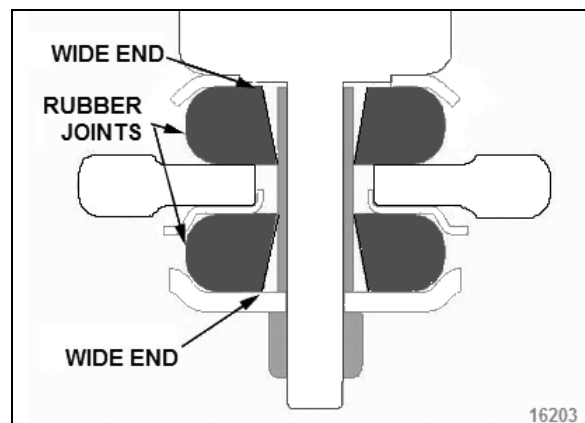

FIGURE 38: LOWER SHOCK MOUNTING BUSHINGS 16203
3. On the lower mounting, take care to install the rubber joints with the wide end of the tapered hole as shown in Figure 38.